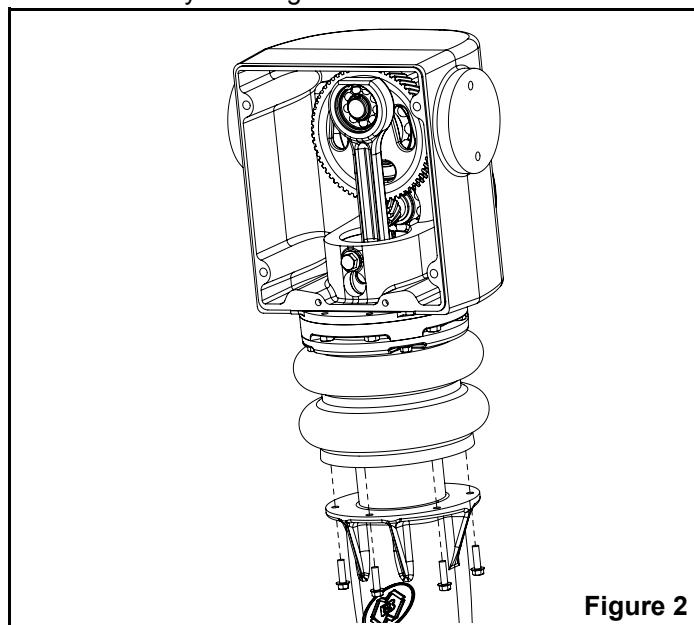

Figure 2
8. Remove the gearbox assembly from the lower unit assembly. See Figure 2.